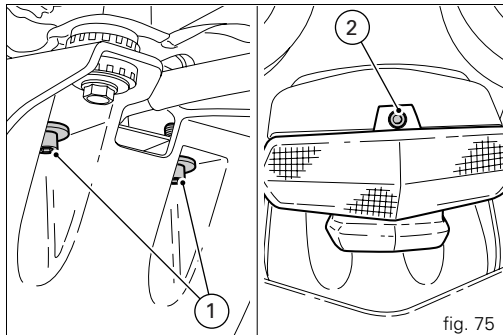

fig. 75
Unscrew the screw (2) and slightly withdraw the rear light support (fig. 75).